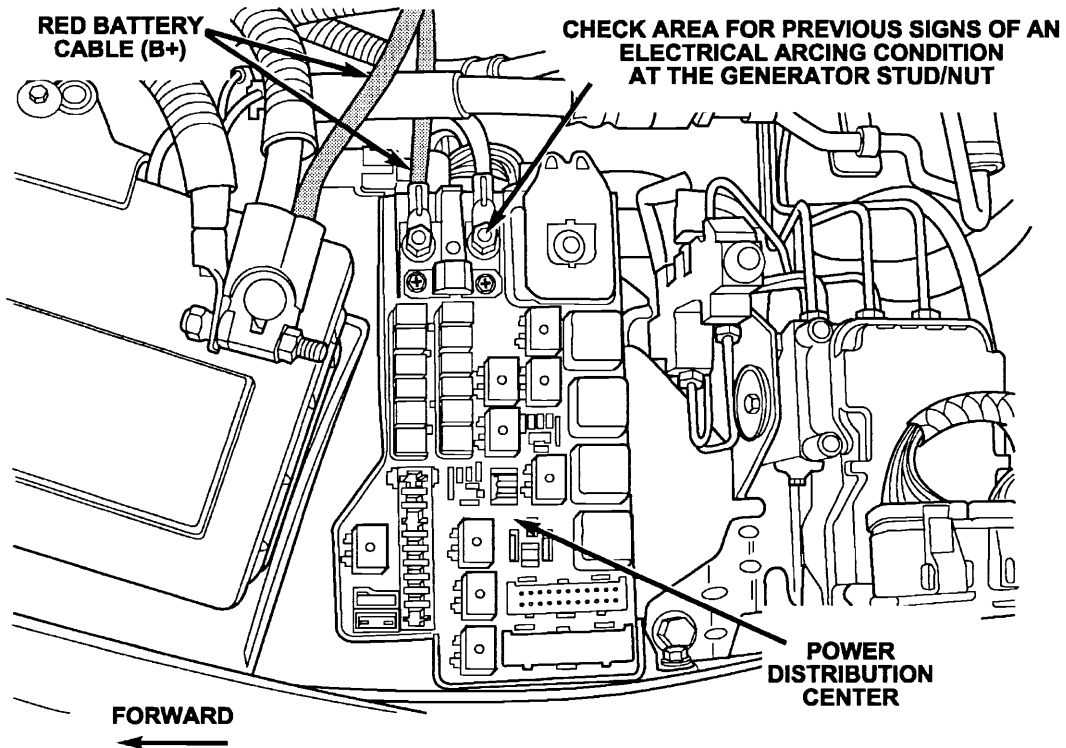

Figure 2 – Top View
4. Inspect the black generator cable connection and the surrounding area on the Power Distribution Center for signs of previous electrical arcing (Figure 2).